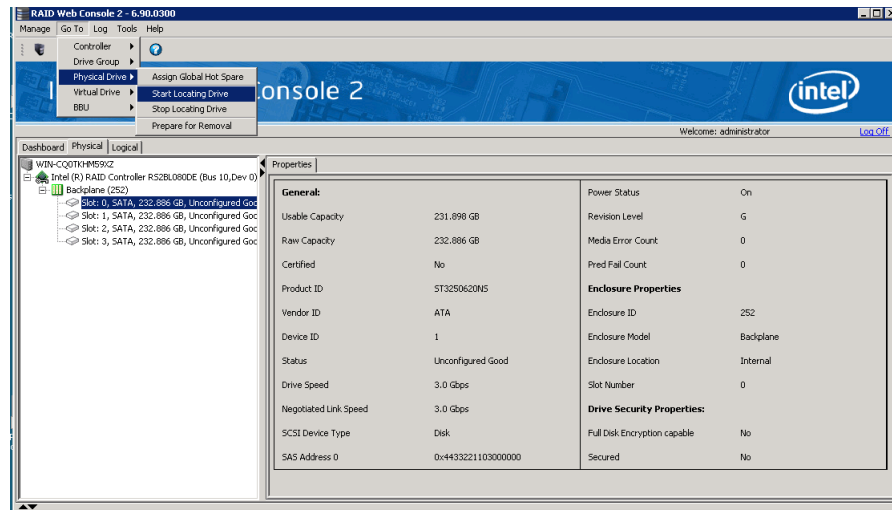

Figure 82. Locating a Physical Drive
3. Click **Start Locating Drive** (see Figure 82).